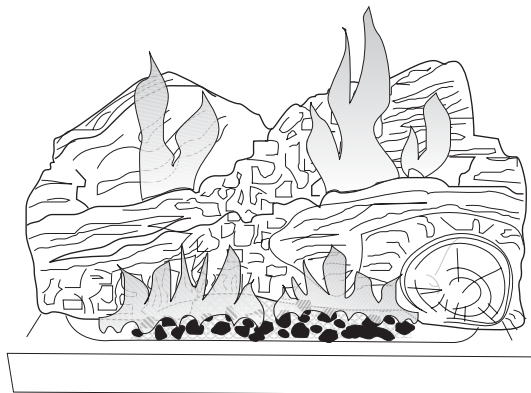

Figure 18. Proper flame picture.
To install the log set, remove the packaging and place the log set inside the firebox, centered from left to right and completely against the rear wall of the stove. See Fig. 18.
**IMPORTANT: IF THE OPTIONAL FORCED BLOWER KIT (PART # 129161) IS TO BE INSTALLED ON THE STOVE AT THE TIME OF THE INSTALLATION OR IN THE FUTURE, THE GAS SUPPLY LINE SHOULD BE INSTALLED AS CLOSE TO THE FLOOR AS POSSIBLE. USE OF A 90° DIRECTLY OFF THE VALVE WILL ALLOW FOR PROPER CLEARANCE FOR THE BLOWER. SEE FIG. 18.**